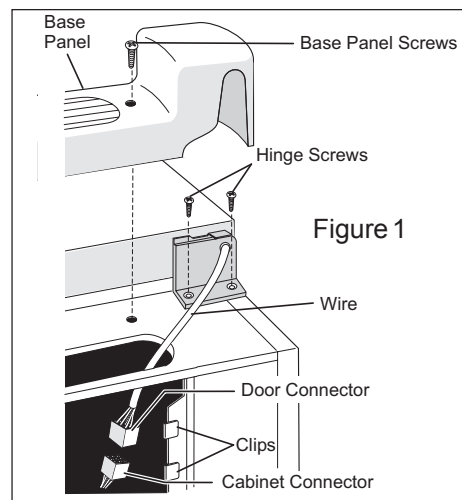

Figure 1
2. Remove two base screws and base panel. Remove wire from clips on bottom of cabinet. (Figure 1)
3. Unplug connector, if required, by holding the cabinet connector in place, and pulling door connector out. (Figure 1)
4. Remove bottom hinge screws. (Figure 1)